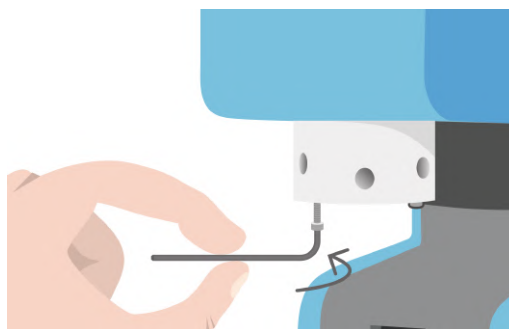

FIGURE 4.17 – Attach the valve using the 2 screws
6. Screw both screws using a hex key to attach the valve on the pump (see Figure 4.17).